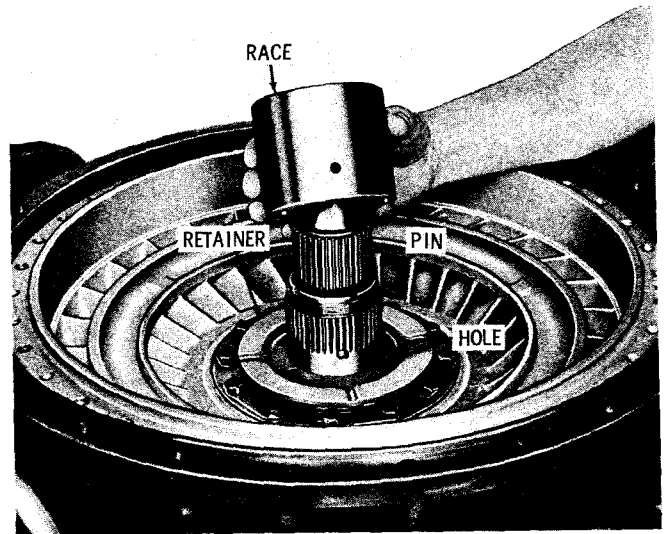

Fig. 7-79. Installing freewheel roller race (variable-capacity, 3-element converter)
(8) On the 3-element (variable-capacity) converter, install the retainer (fig. 7-79), smooth side up. Install the stator freewheel roller race, engaging the pins into the holes. Continue assembly through (11), below.